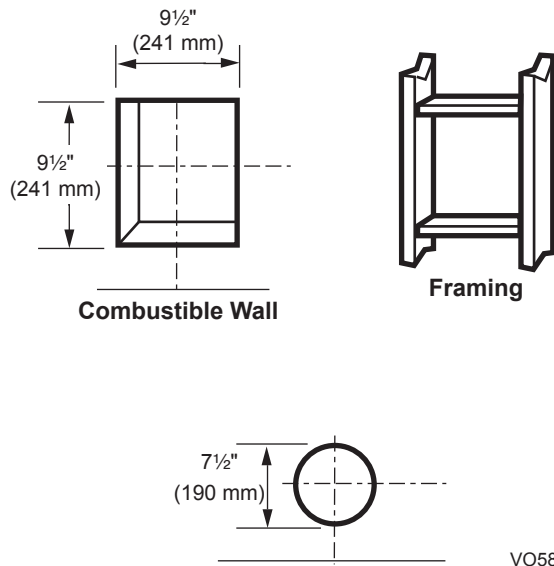

Figure 26 - Exterior Wall Framing Dimensions for 4 x 6^{5/8}" Venting
- Combustible Exterior Walls:** Cut a 9½"H x 9½"W (241 x 241 mm) square hole through the exterior wall frame. *Figure 26*
2. The center of the hole should align with the center line of the horizontal rigid vent pipe end. Allow ¼" minimum rise per foot. *Figure 26*